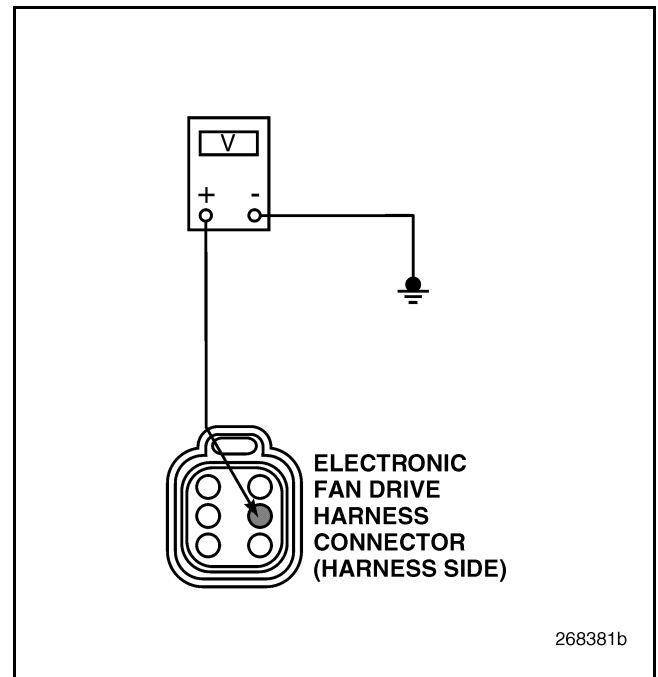

Figure 535
4. Measure the voltage between pin 5 of the Electronic Fan Drive harness connector and a good ground (see Figure 535).